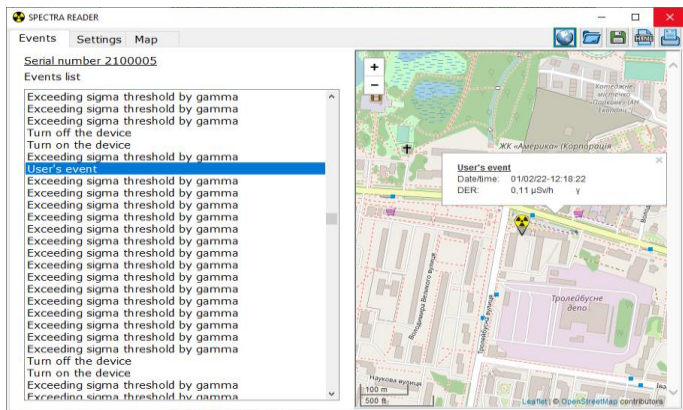

Figure 28 – Event display on the map
– display the event on the map, according to the coordinates where it was saved (if the coordinates have been added) (Figure 28).